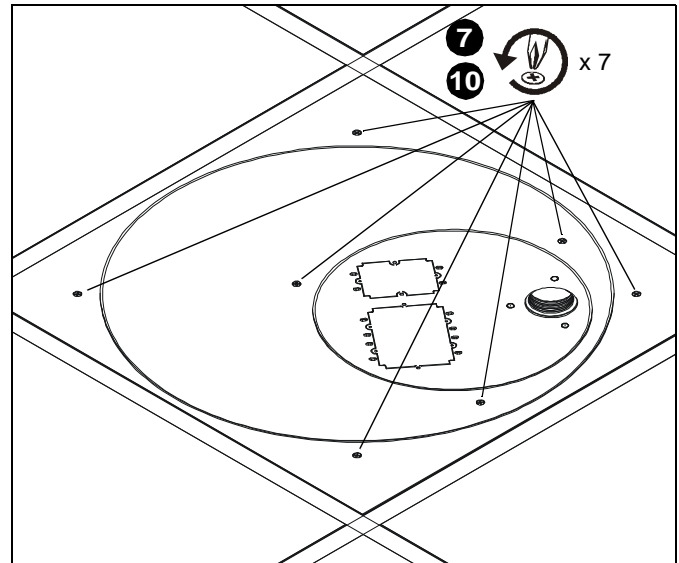

Figure 3
5. Press center tip of ceiling tile cutter (M) into *finished* side of ceiling tile at marked location. Cut extension column hole through tile using back and forth hand twisting motion.
7. Loosen seven clamp screws in lower (finished) side of CMS445 assembly (A). (See Figure 3)
2. Using hex key (L), secure extension column by *one* of the following methods (See Figure 3):
- Install screw (H) into extension column support, tightening firmly against column.
- **OPTIONAL:** Install security screw (J) through locking collar (K) into extension column support, tightening firmly against column.